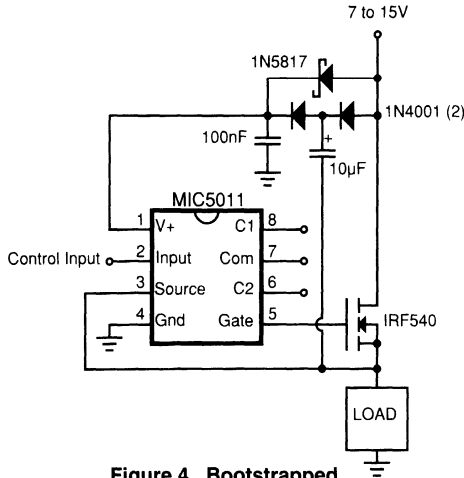

Figure 4. Bootstrapped High-Side Driver
**Bootstrapped High-Side Driver** (Figure 4). The speed of a high-side driver can be increased to better than 10 $\mu$ s by bootstrapping the supply off of the MOSFET source. This topology can be used where the load is pulse-width modulated (100Hz to 20kHz), or where it is energized continuously. The Schottky barrier diode prevents the MIC5011 supply pin from dropping more than 200mV below the drain supply, and it also improves turn-on time on supplies of less than 10V. Since the supply current in the "off" state is only a small leakage, the 100nF bypass capacitor tends to remain charged for several seconds after the MIC5011 is turned off. In a PWM application the chip supply is sustained at a higher potential than the system supply, which improves switching time.